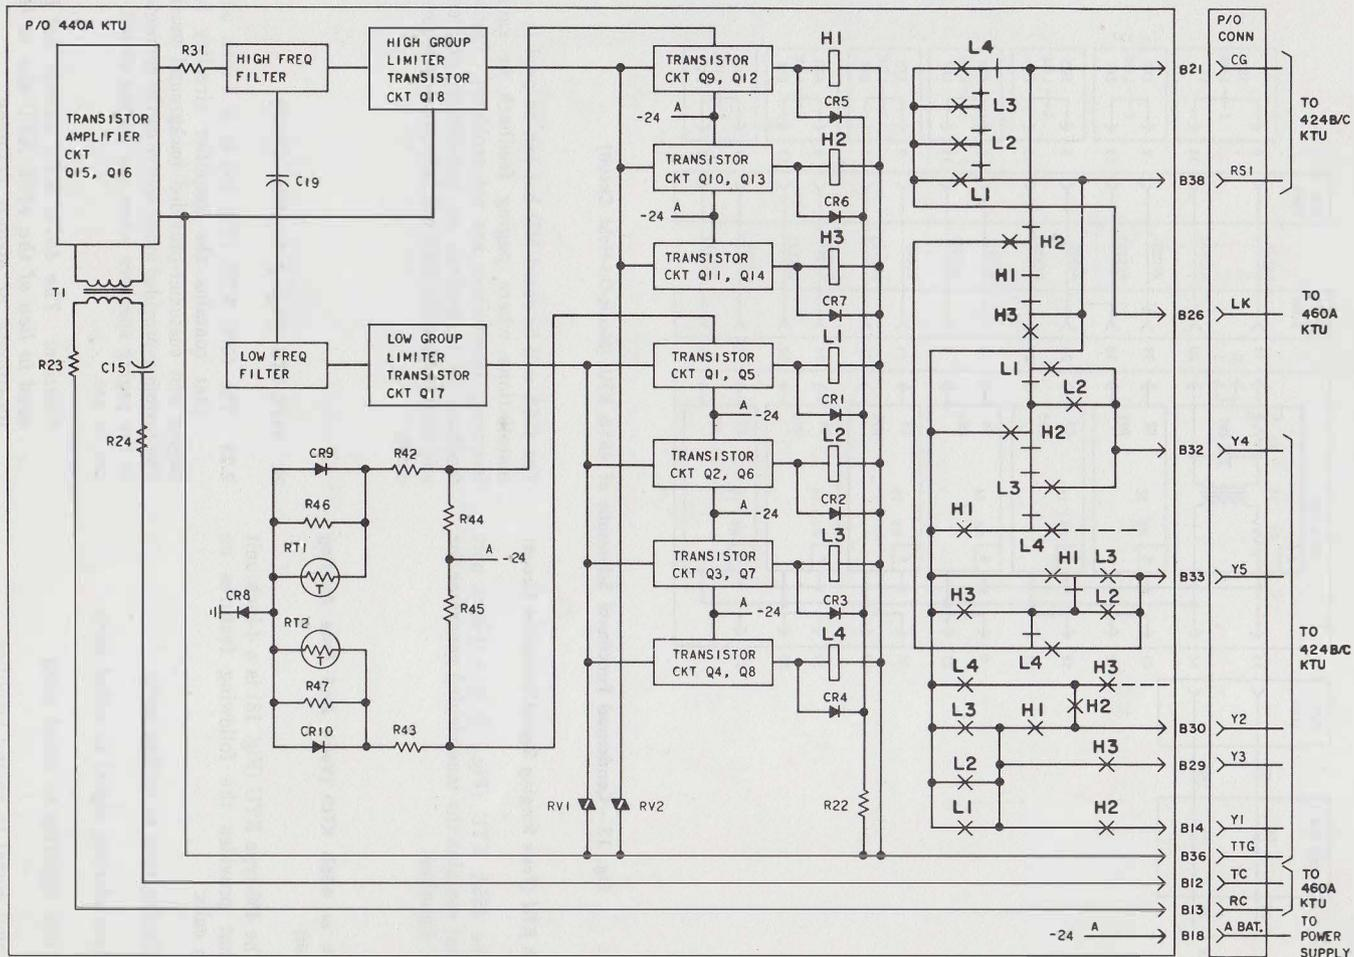

Fig. 14—Condensed Functional Schematic of 440A (MD) KTU (TOUCH-TONE Adapter Circuit)
C. 440A (MD) KTU (TOUCH-TONE Adapter Circuit)
2.20 The 440A KTU (Fig. 14) is an 8-inch unit that provides TOUCH-TONE dialing when used in conjunction with the 424B/424C KTU. Additional information on the 440A KTU may be found in CD- and SD-69906-01.